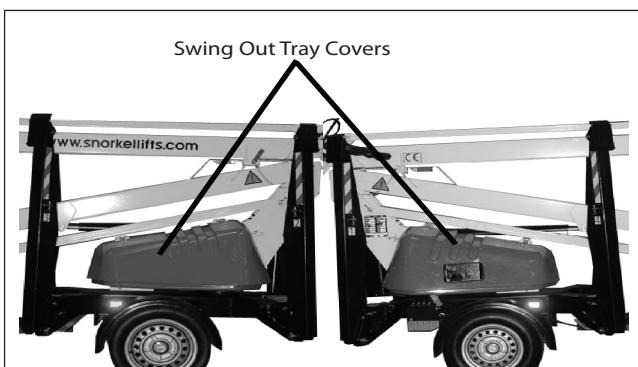

Figure 9.7 – Swing-Out Tray Cover
Batteries and hydraulic components are enclosed in trays covered by a swing out cover (refer to Figure 9.7) on each side of the chassis.
- To open the tray, pull upward on the latch(step 1), turn clockwise(step 2) and swing the tray open (refer to Figure 9.7).